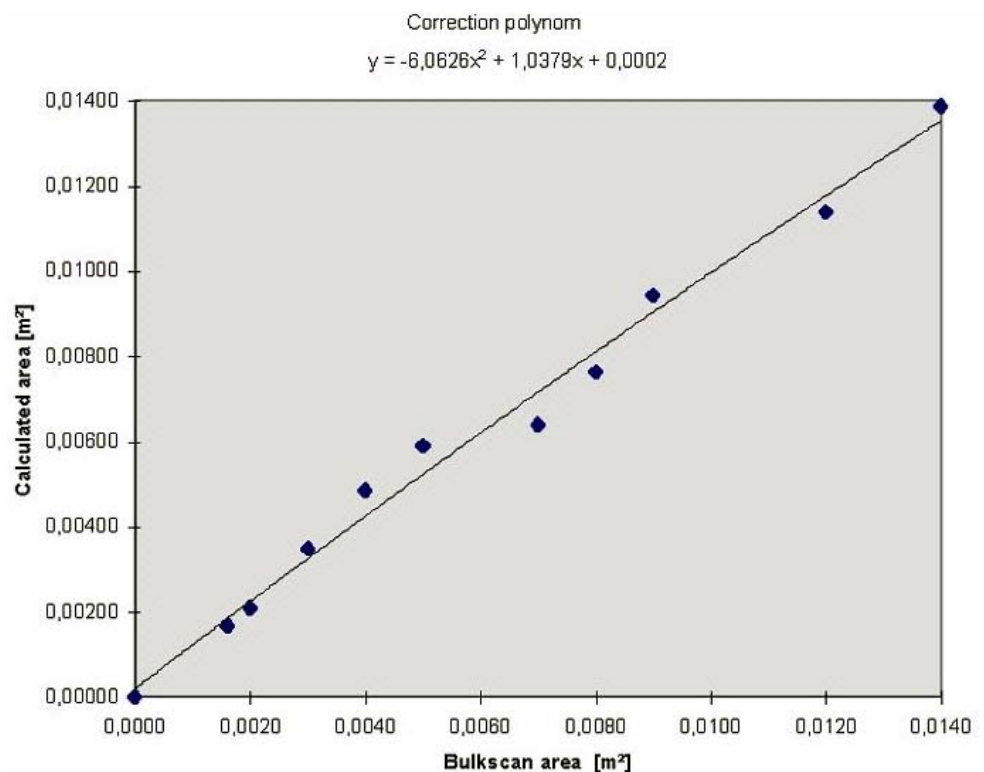

Fig. 4.29: Diagram with regression line and calibration equation
- To illustrate the relations, the values "mean area" and "Calculated area" can be used to draw a diagram (see **Fig. 4.29**).